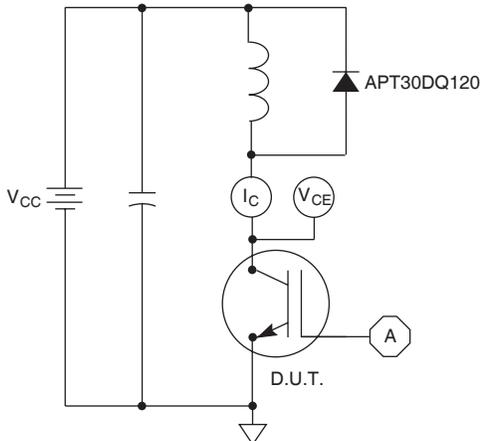

Figure 21, Inductive Switching Test Circuit
⑤  $E_{on2}$  is the clamped inductive turn-on energy that includes a commutating diode reverse recovery current in the IGBT turn-on switching loss. (See Figures 21, 22.)
⑥  $E_{off}$  is the clamped inductive turn-off energy measured in accordance with JEDEC standard JESD24-1. (See Figures 21, 23.)
⑦  $R_G$  is external gate resistance, not including  $R_{Gint}$  nor gate driver impedance.
⑧ Continuous current limited by package lead temperature.